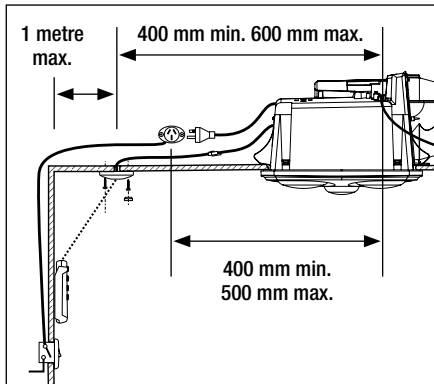
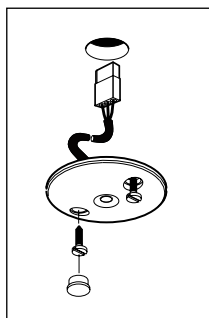

Fig. 16
Fig. 18
2. Mark out the location of the Sensor on the ceiling. The Sensor must be located between 400 mm and 600 mm from the Tastic Unit (Fig. 16). Ensure there are no joists or fittings behind the ceiling at the point. Drill a 15 mm diameter hole through the ceiling at the centre of the Sensor location. Insert Sensor lead through the hole and feed wire into ceiling. Mount the Sensor over the hole and feed wire into ceiling. Mount the Sensor over the hole using two 6 G screws. Tighten screws and insert infill buttons into screw holes as shown in Fig. 18